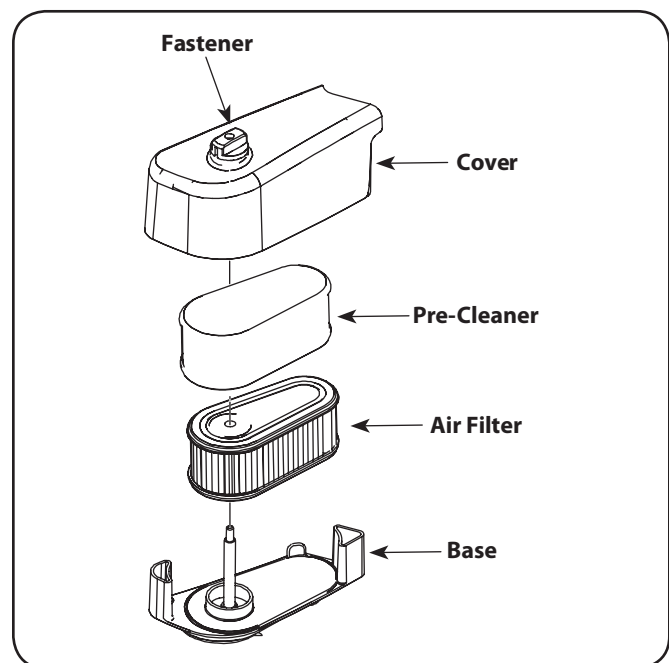

Figure 6-3
2. Open the cover and remove the pre-cleaner and the filter. See Figure 6-3.